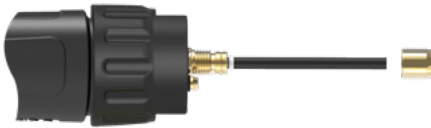

Fig 3
- Reposition and tighten the liner retaining nut (Fig 3,4).